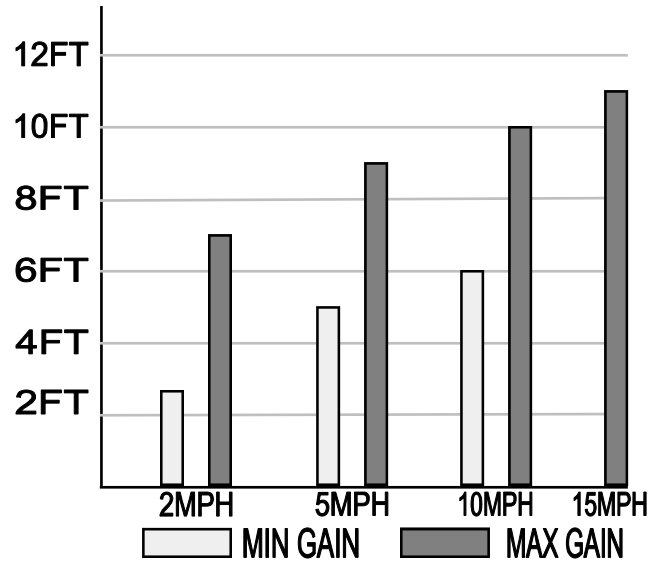

Figure 4 - Approximate Detection Radius
3. Remember that the mass and speed of vehicles results in a relatively large diameter detection area (See Figure 4). The sensor should not be installed closer than about 30 feet from a busy residential road, about 40 feet from truck traffic, and about 100 feet from railroad tracks.
Determine the optimum placement by laying the sensor on the ground, turning the Signal Processor sensitivity ("GAIN") all the way down (CCW), and driving past the sensor at the probable vehicle speed and line of travel (See Figure 4). Gradually increase the sensitivity and/or adjust the sensor location for desired results. Keep the sensitivity as low as possible to avoid nuisance tripping. Bury the sensor about 6 inches (15cm) deep, parallel to the line of travel of the vehicle. If the sensor is put in conduit (1½ inch ID), keep it stationary within the conduit with foam, sponge or tape.
3. Place the sensor(s) on the ground in the desired location. Figure 4 shows the approximate coverage pattern for a single sensor.
1. There are two basic causes for false tripping in the Vehicle Sensor System - those related to the operating environment, and those related to failure of the sensor or processor. False tripping related to the operating environment is usually caused by faulty grounding, power lines or transformers too close to the sensor or cable, or detection of fast moving vehicles outside the intended sensing area of the sensor (see Figure 4). Carefully check these possibilities before assuming sensor or processor malfunction.